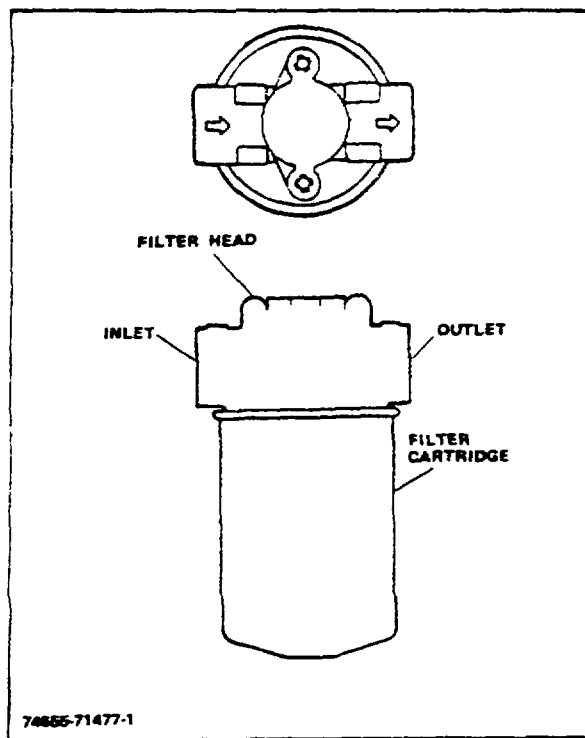

Figure 11-1. Hydraulic Oil Filter (Type B)
2. Unscrew and remove cartridge (Fig 11-1) from filter head. Discard filter cartridge.